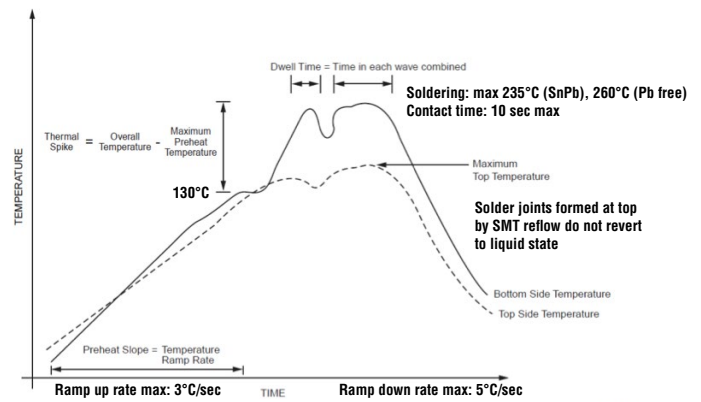

Figure 3. Guideline for Dual-Wave Solder Profile
- Wave solder using a dual wave soldering system, see Figure 3 (Guideline for Dual-Wave Solder Profile), for details.
Non-surface mount pin through-hole IC packages, the recommendation is to follow **IPC-7530-Guideline for Temperature Profiling for Massive Soldering Processes (See Figure 3)** and **IPC-9502-PWB Assembly Soldering Process Guideline for Electronic Components**. The ramp up, thermal spike, dwell time and maximum topside